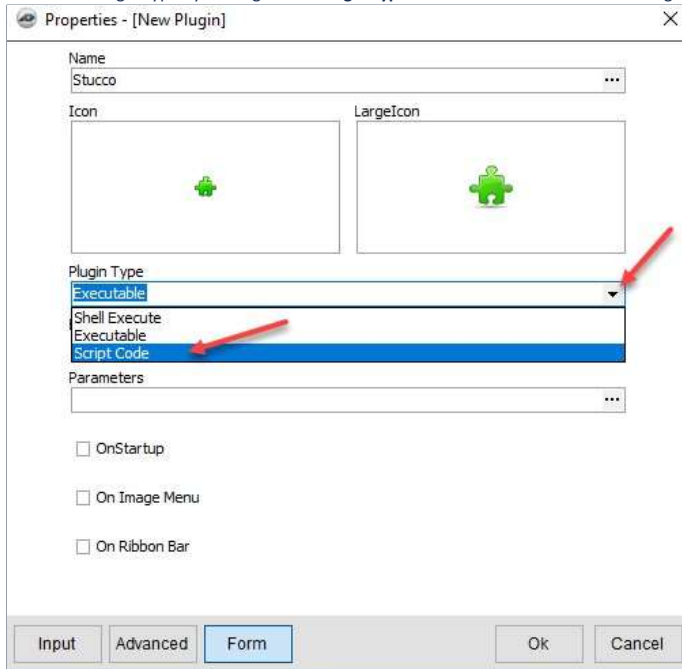

Figure 5
5. Select the Plugin Type by clicking on the **Plugin Type** selection arrow and then selecting **Script Code** from the drop-down menu (Figure 5).